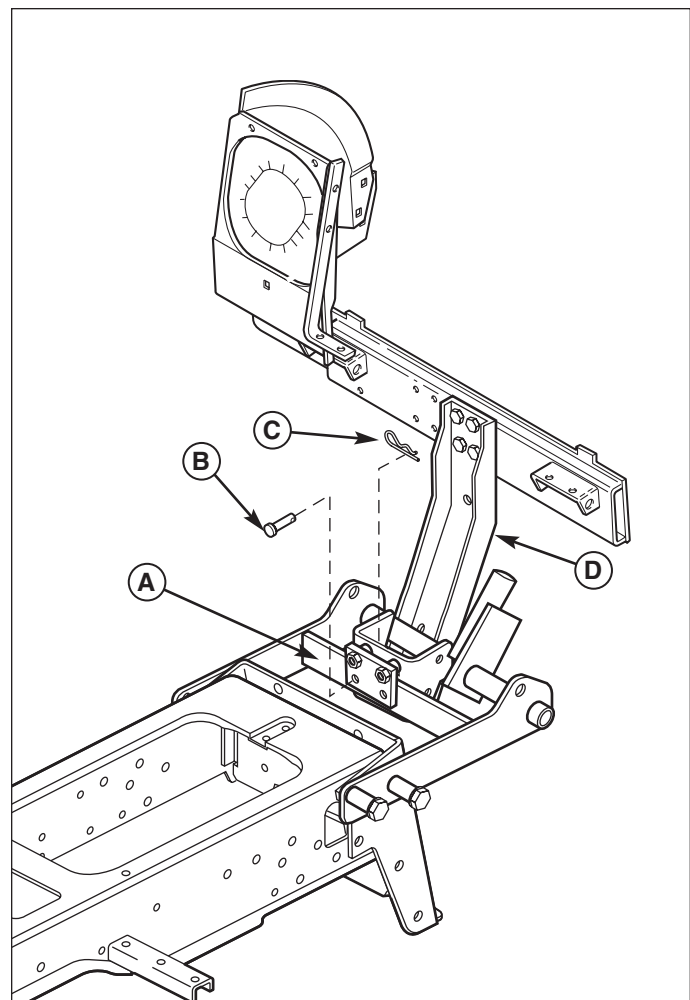

Figure 13. Installation (Prestige Shown)
1. Rest the support assembly (D, Figure 13) on the tiller hitch (A) cross-bar.
2. Secure the catcher to the tiller hitch using two clevis pins (B) and hair pin clips (C).